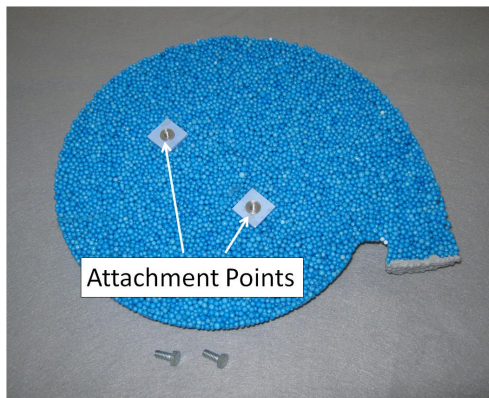

Figure 2. HYVAC fixture with CMT attachments.
- 2.1. In addition to fixture design, it is important to design and machine a backing plate and attachment points for the fixture. The back side of a HYVAC fixture is shown in Figure 2 to illustrate typical attachment points.